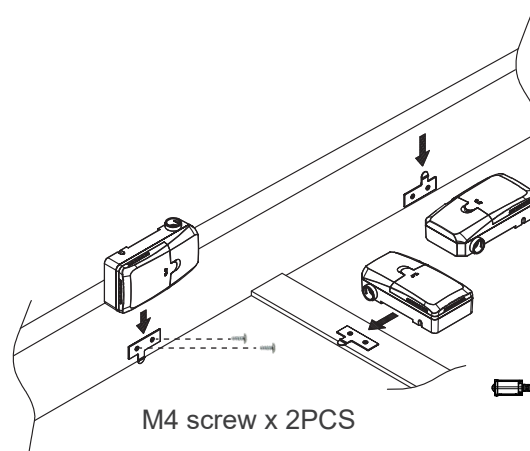

Fig.1
1. As shown in **Fig.1**, the above installation directions are available
2. According to the usage, first fix the mounting plate to the proper position of the bed frame with M4 screws. (**Fig.1**)
3. Align the mounting plate with notch (1~3) on the back of the control box and put it in. (**Fig.1, 2**)